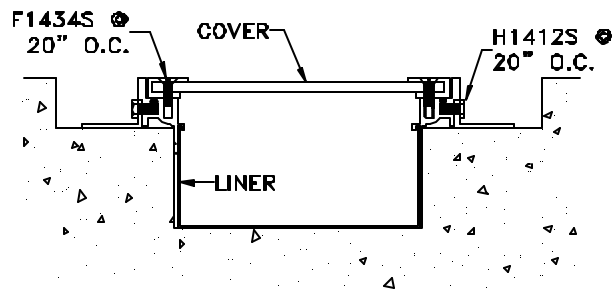

Figure 9
- STEP 13.** After all the angles have been attached, place the system, if it is completely assembled, or the first section of the system, if it is not completely assembled, into the prepared blockout and trench (see Figure 9).